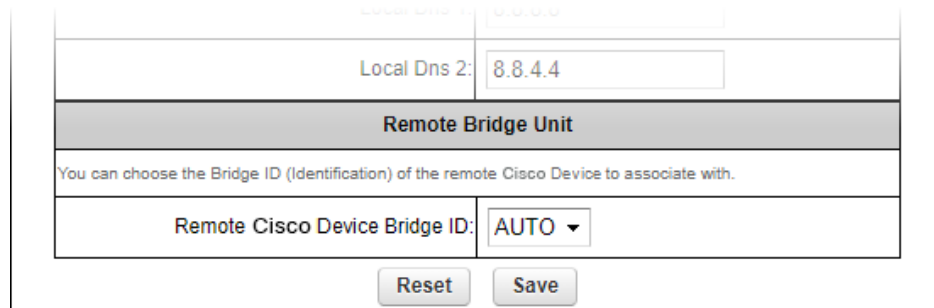

Figure 25. General Mode window (Remote Bridge Unit section)
1. Click the **Remote [Unit model] Bridge ID:** drop-down (Figure 25 \(page 61\)).